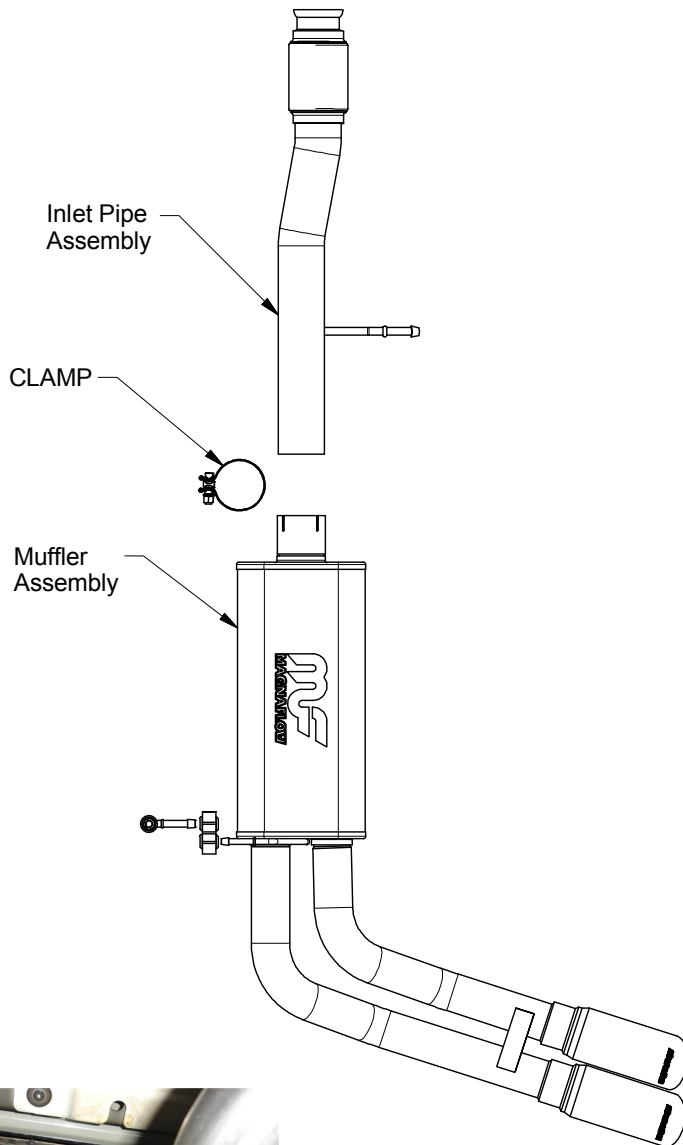

Fig. 1
Step 2: Install the new inlet pipe assembly at the ball flare using the OEM fasteners. Leave all clamps and fasteners loose for final adjustments of the new system. Using the supplied 3.00" clamp, install the muffler/tailpipe assembly, and insert the welded hanger into the OEM rubber insulator. Install the threaded hanger in a pre-drilled hole in the frame as shown in Fig.1.